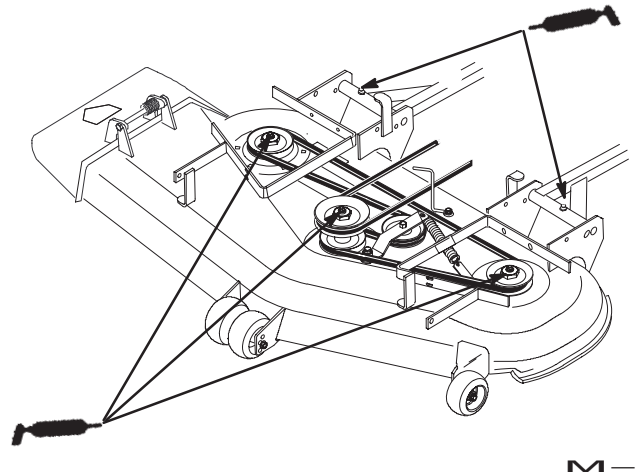

Figure 46
2. Grease the fittings on the three spindle bearings until grease comes out lower seals (Fig. 46).
3. Grease the fittings on the push arms (Fig. 46).